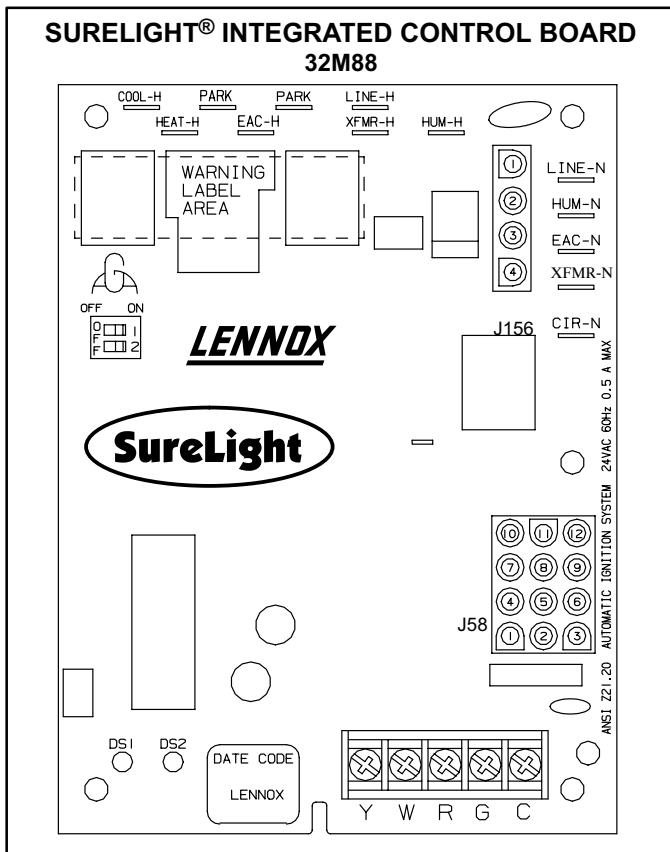

FIGURE 6
The SureLight ignition system consists of ignition control board 32M88 (figure 6 with control terminal designations in table 3), ignitor (figure 9) and sensor (figure 10). Control board 32M88 and ignitor work in combination to ensure furnace ignition and ignitor durability. The control board controls all major furnace operations. The control board also features two green LED lights (DS1 and DS2) for troubleshooting and two accessory terminals rated at (1) one amp. Tables 1 and 2 show jack plug terminal designations. See table 4 for troubleshooting diagnostic codes. The SureLight ignitor is made of durable silicon-nitride. Ignitor longevity is also enhanced by voltage ramping by the control board. The control board finds the lowest ignitor temperature which will successfully light the burner, thus increasing the life of the ignitor.